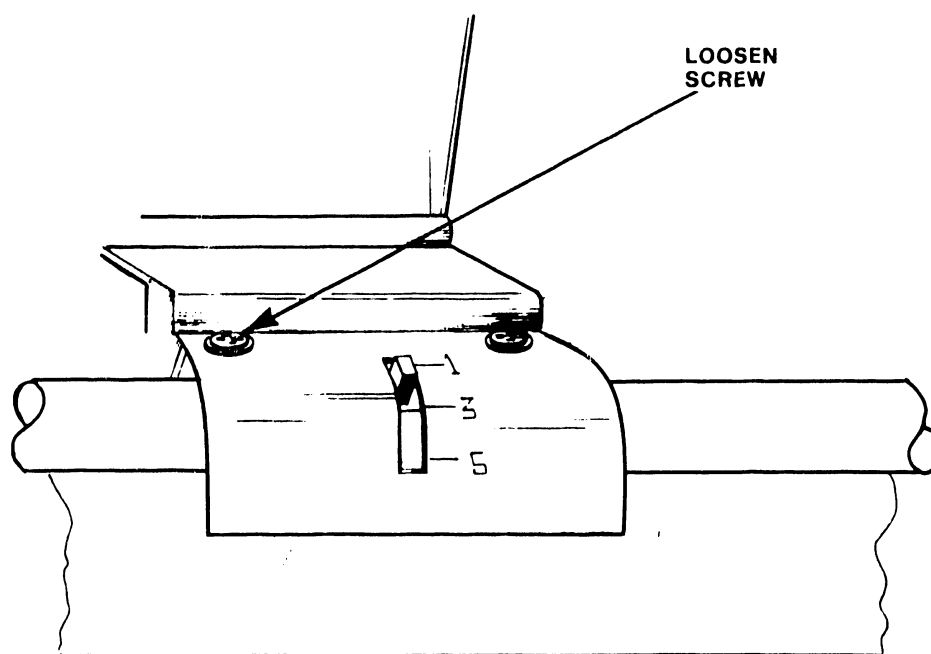

FIGURE 5-19 LEFT MARGIN HOME POSITION ADJUSTMENT
1. Loosen screw that holds the photo flag (see Figure 5-19). Moving the photo flag towards the left increases the left margin width. Moving it right decreases margin width.